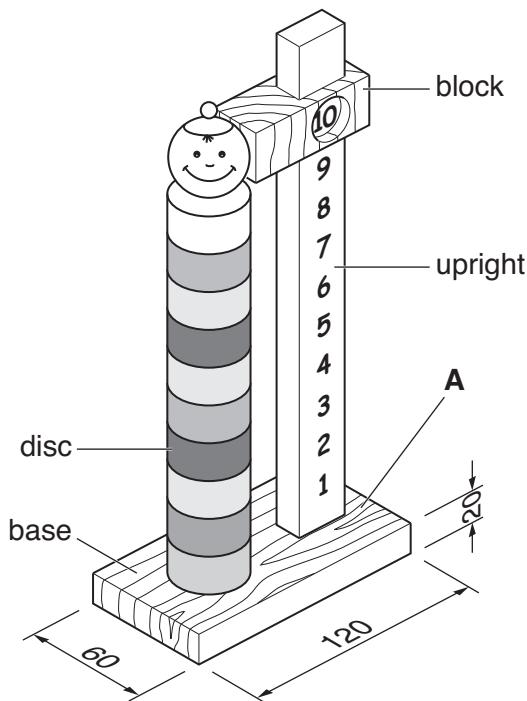

Fig. 3
- 3 Fig. 3 shows an educational toy made from beech.